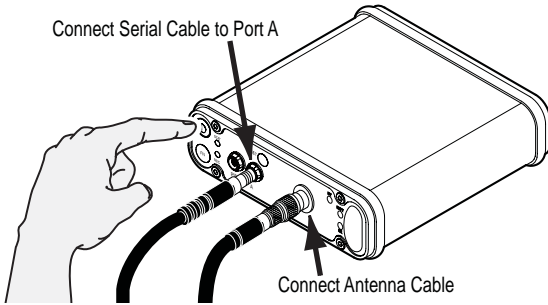

Figure 2-5. Connect Cables and Turn on Receiver
1. Connect the antenna cable and serial cable to the receiver. Turn on the receiver (Figure 2-5).